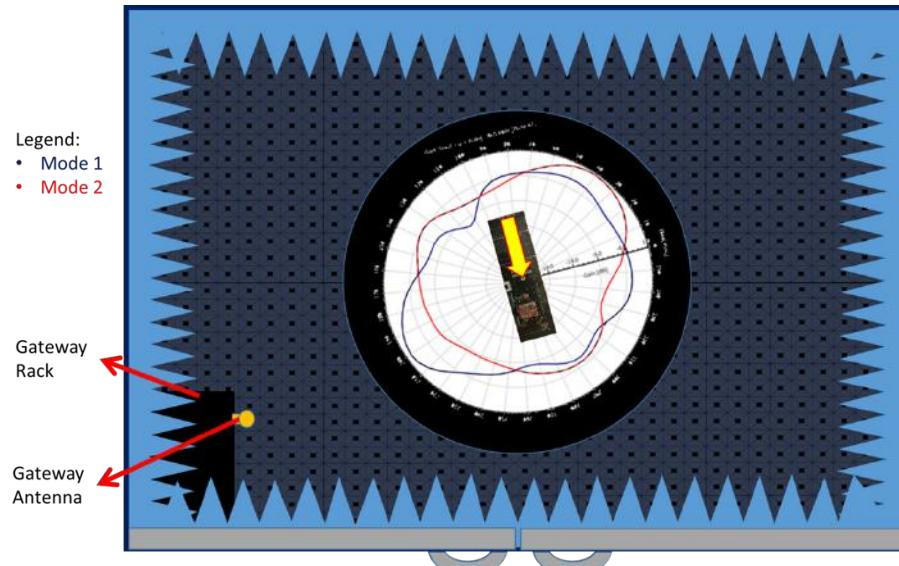
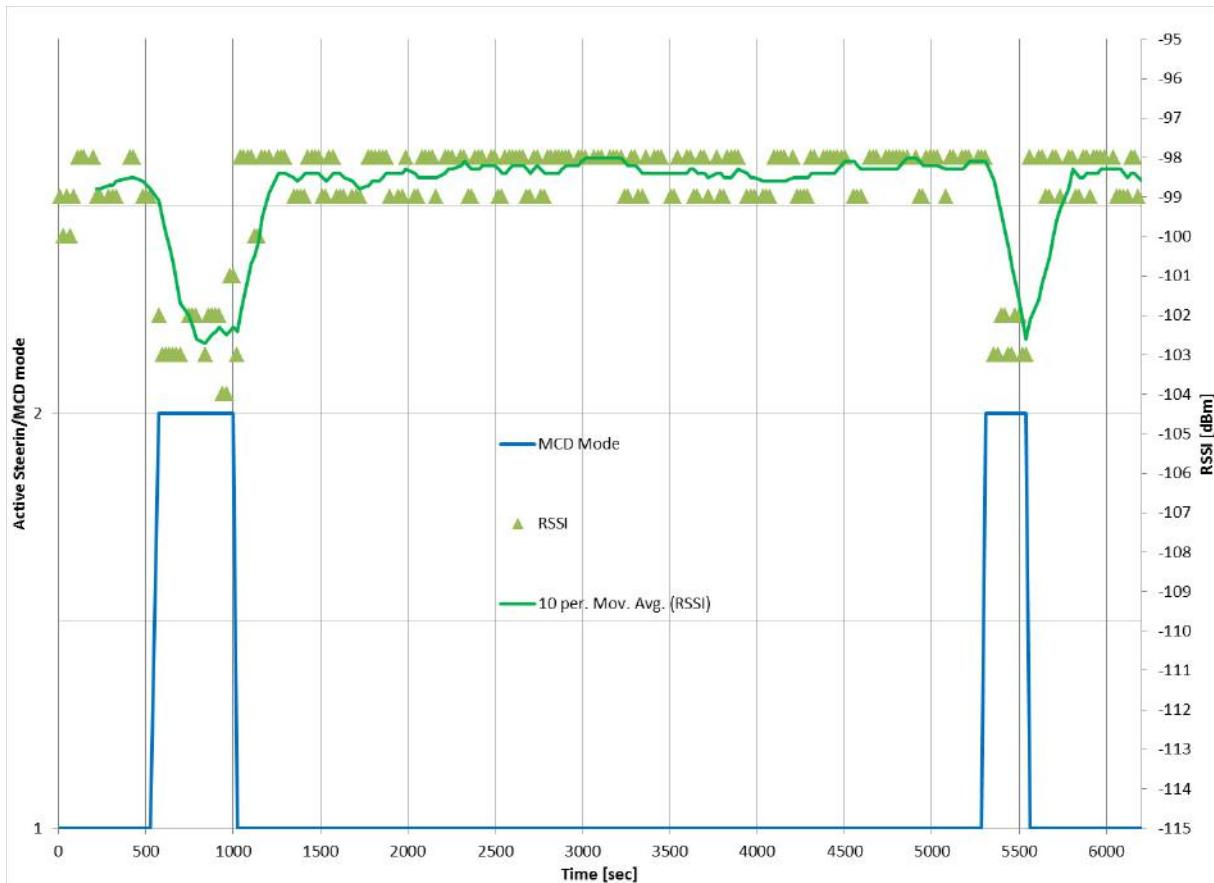

Figure 15
Figure 16
- In Figures 16 and 18 the RSSI values are shown when the Ethertronics Active Evaluation Board V1.1 is measured in the positions shown in the Figures 15 and 17 respectively.
- In the figures 16 and 18 it can be observed that the MCD algorithm converged to the best mode, which has the highest gain towards the gateway antenna, in both positions.